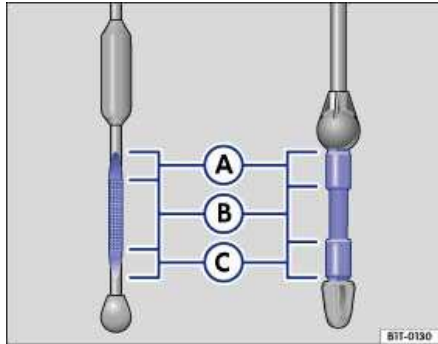

Fig. 8 Engine oil dipstick with engine oil level marks
- (A) You **must not** add oil ⇒ Fig. 8.
- (B) You **may** add oil. The oil level may go into the **A** range, but not above the **A** range.
- (C) You **must** add oil. After adding oil, make sure that the oil level is within the **B** range.
If the engine oil level is above the (A) range on the dipstick (⇒ Fig. 8), do not start the engine – this could damage the catalytic converter and the engine! Contact an authorized Volkswagen dealer or a qualified workshop.
The illustration above (⇒ Fig. 8) shows a typical oil dipstick. Depending on the model, your oil dipstick may look slightly different. The markings on the dipstick are the same for all models.
- When the oil level is within the (B) range (⇒ Fig. 8), carefully put the oil cap back on and insert the oil dipstick all the way. Otherwise, oil could leak out while the engine is running.
If the oil level is above the (A) range on the dipstick (⇒ Fig. 8), do not start the engine – this could damage the catalytic converter and the engine! Contact an authorized Volkswagen dealer or a qualified workshop.